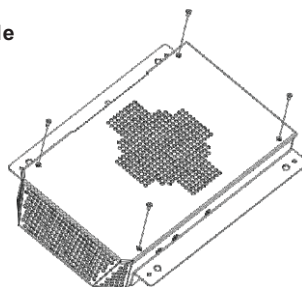

Figure 6.38 Schematic diagram of plasma module maintenance step 1
- (1) Please confirm that the power supply has been cut off before maintenance;
- (2) Take out the four screws on the front of the purifier, as shown in Figure 6.38;